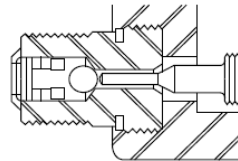

Figure 6 – Pressure Releasing Tool as Installed (Ball Check Closed).
3. Install the pressure releasing tool onto the uncapped grease fitting. The ball check on the grease fitting should still be closed, Figure 6.